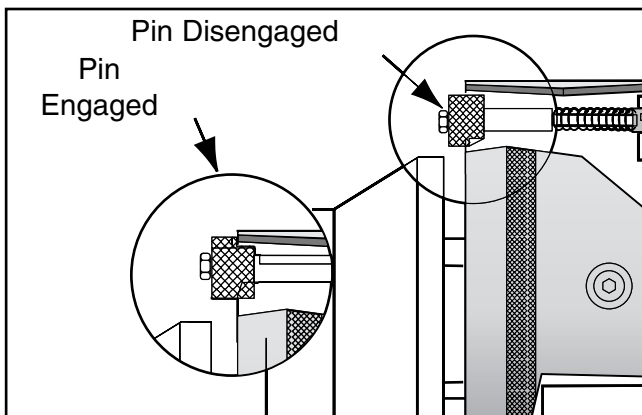

Figure 15. Locking pin positions.
2. Disengage the hub locking pin so the flat is turned toward the outer rim of the hub adapter as shown in **Figure 15**.
6. Engage the hub locking pin back into place as shown in **Figure 15**.